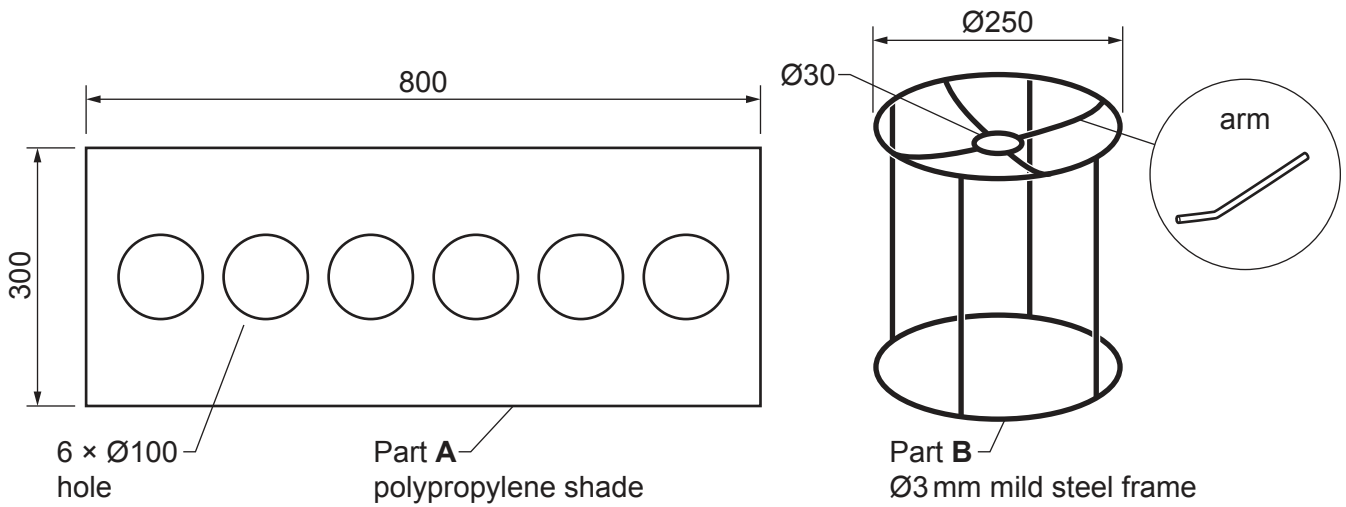

Fig. 2.1
- 2 Fig. 2.1 gives details of a lampshade which is to be made in a school workshop. The polypropylene shade wraps around the mild steel frame.